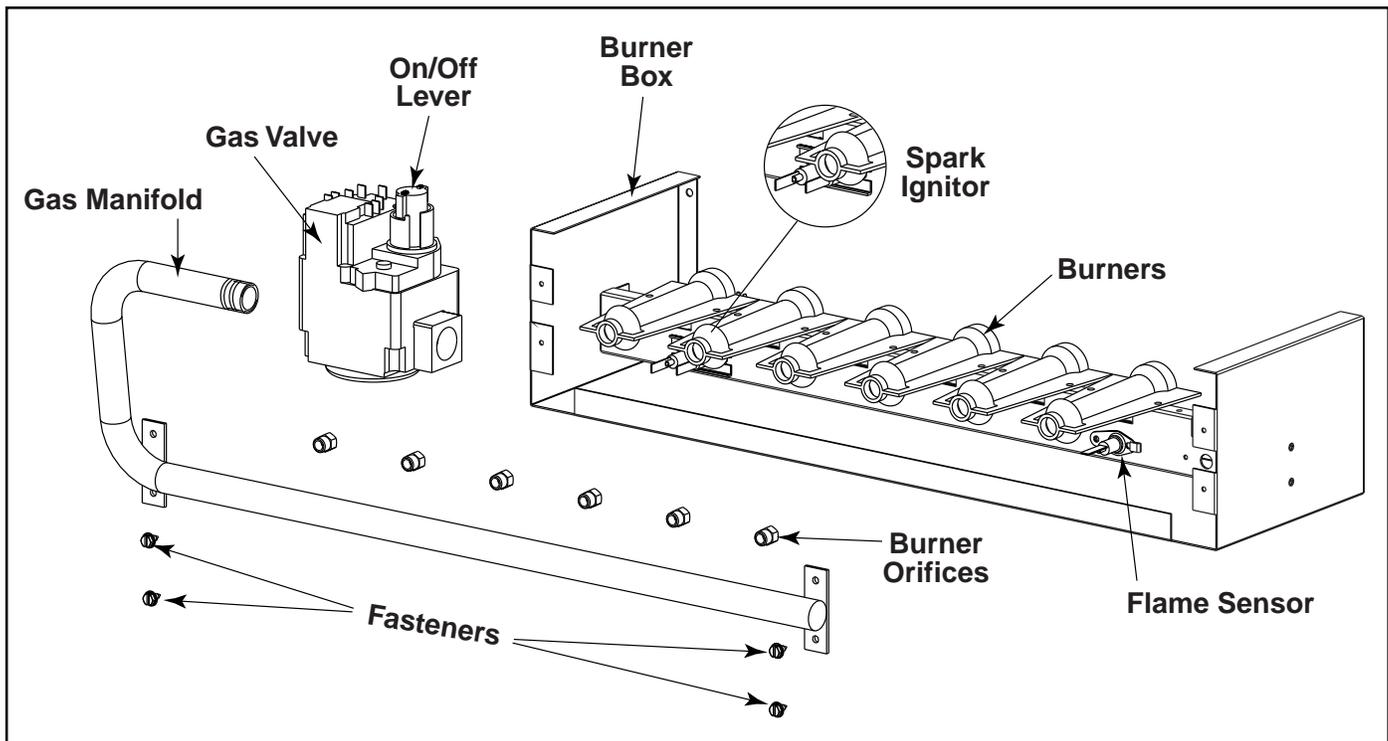

Figure 1. Typical Installation For R4GM Burner Box
5. Move the appliance gas valve lever/knob to the "OFF" position. See Figures 1 and 3.
6. Remove the four (4) fasteners that secure the gas manifold to the burner box, as shown in Figure 1. Carefully remove the gas manifold assembly from the burner box. Note that the gas manifold assembly consists of the gas valve, the gas manifold, and the orifices.
7. Carefully remove the gas valve and burner orifices from the gas manifold, as shown in Figure 1.